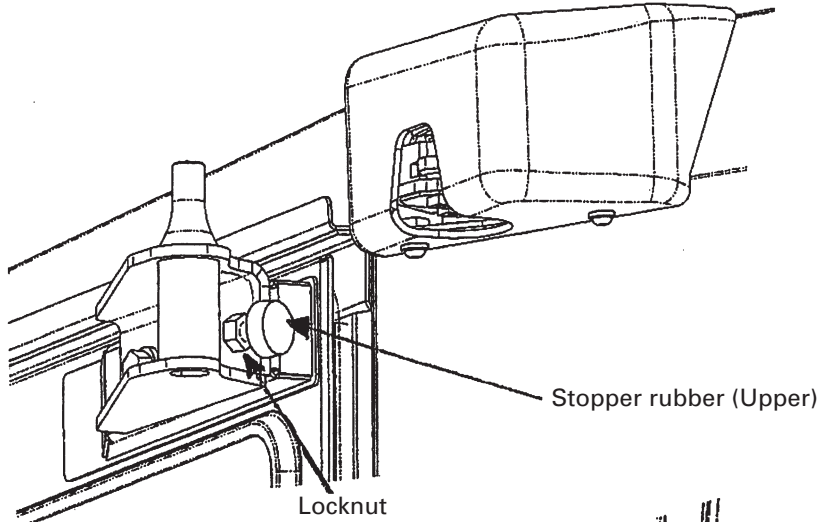
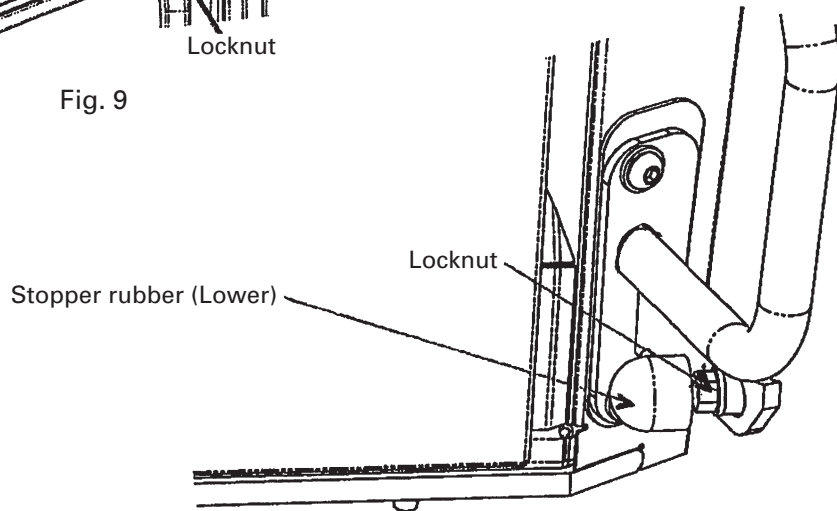

Fig. 9
Fig. 10
(1) Adjusting latch and striker
(2) Adjusting installed height of stopper rubber (2 places, upper and lower) Fig. 9, Fig. 10